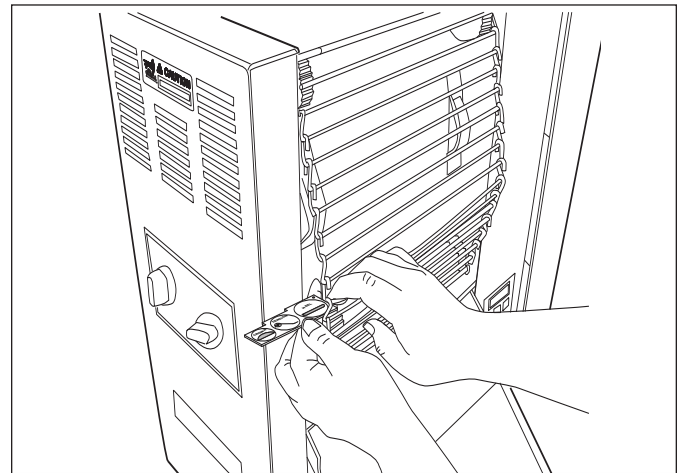

Figure 13. Measuring Conveyor Chain
4. Stand the HEEL section of the Gap Tool between the chain and the frame (Figure 13).